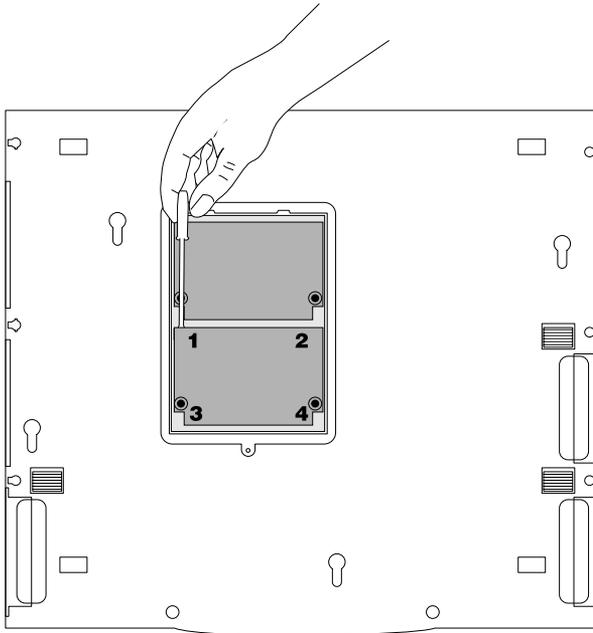
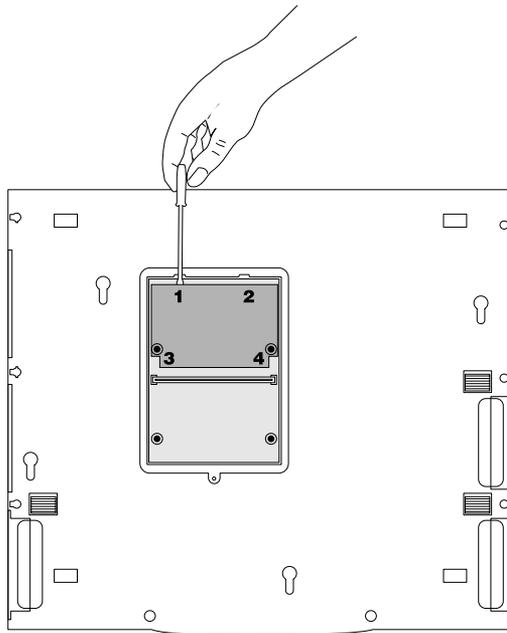

Figure 3-13 Removing the Secondary Memory Module
Figure 3-14 Removing the Main Memory Module
- a. Using a small flat-tip screw driver, pry gently upward against the outer edges of the system's secondary main memory module, as shown in Figure 3-13.
Caution: You must pry gently upward at the leverage points shown in Figure 3-13 and Figure 3-14 or you may damage your memory modules or the main system board and void your system warranty. The leverage points are numbered and you must pry gently upward in the order shown to remove the memory modules without damaging them.
- c. Using a small flat-tip screw driver, pry gently upward against the outer edges of the system's primary main memory module until the memory module is free of its RAM connector, as shown in Figure 3-14.